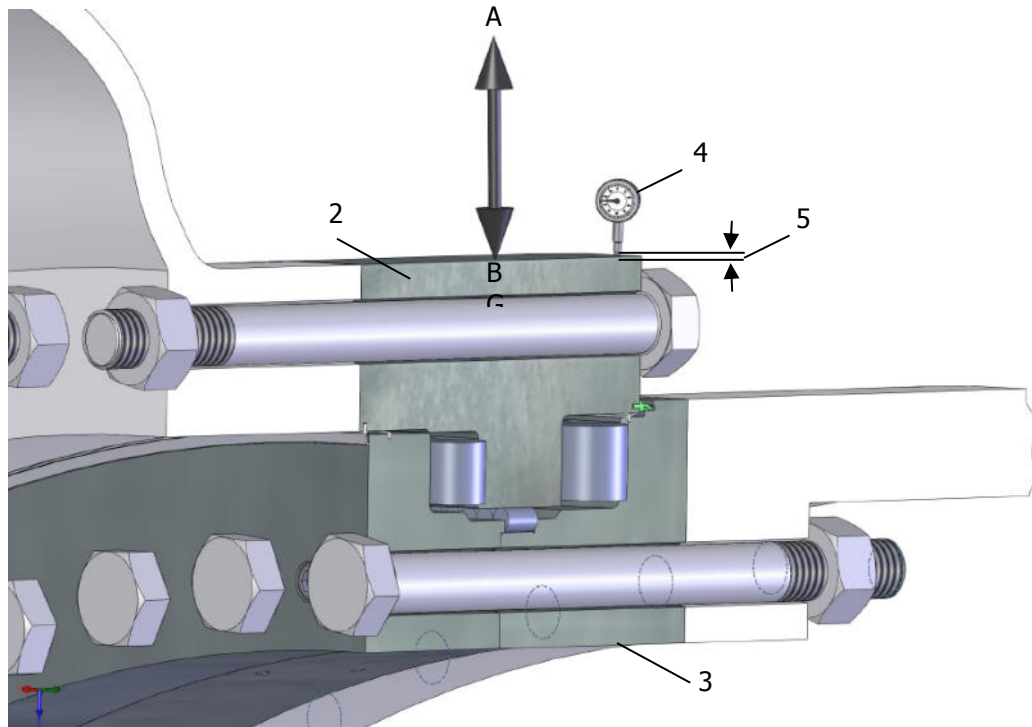

Fig 34: Radial clearance measurement
3. Attach the dial gauge as shown in Fig. 34.